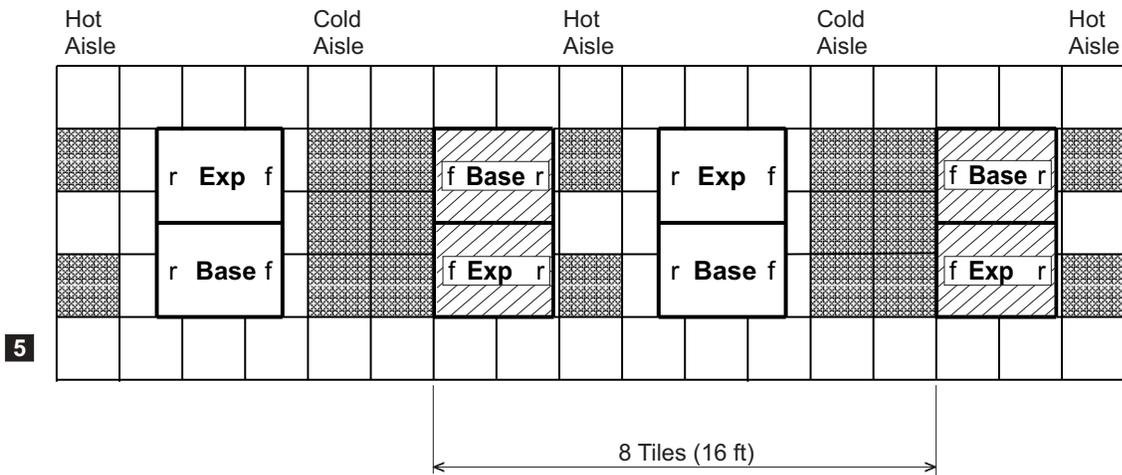

Figure 30. DS8000 layouts and tile setups for cooling
- a. For a standalone base model, install two fully perforated tiles in front of each base model and one partially perforated tile at the back of each base model, as shown in Figure 30 on page 123 in the single-machine examples (1 and 2 in the figure).
- b. For a row of machines, install a row of perforated tiles in front of the machines and one or two fully perforated tiles at the back of each two machines, as shown in Figure 30 on page 123 (3 and 4 in the figure).
- c. For groupings of machines, where a hot aisle/cold aisle layout is used, use a cold aisle row of perforated tiles in front of all machines. For hot aisles, install a perforated tile per pair of machines. A possible minimal configuration is shown in Figure 30 (5 in the figure).
**Note:** Keep in mind that the dimensions represented in Figure 30 might not be adequate for floor-load requirements.